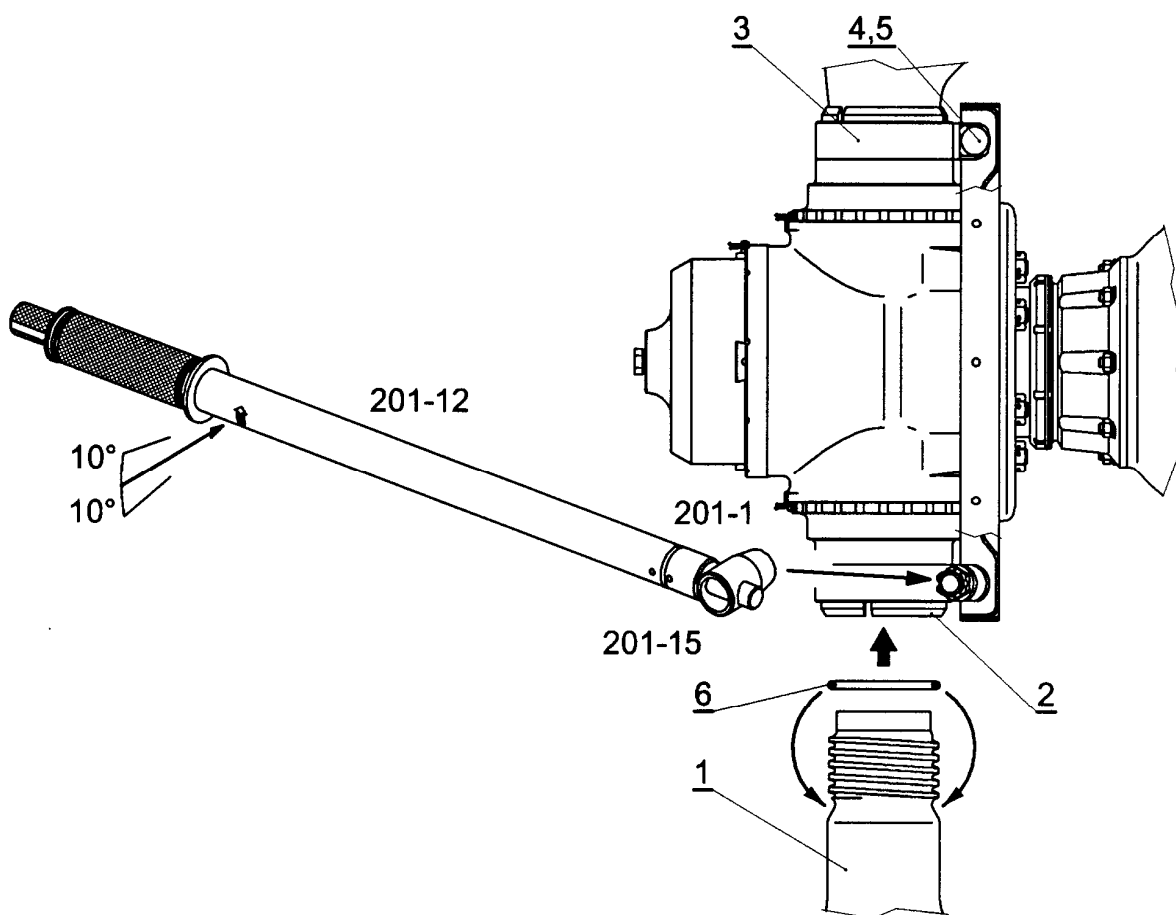

Fig.208 Propeller blades installation
- (6) Install the propeller blades (see fig.208):
- (e) Make arresting of the propeller blade in this position by means of the sleeve (3), mark on the sleeve must agree with a mark on the cylindrical part of the blade bushing. Nuts of the sleeve bolt (5) tighten by the wrench (201-1), with socket inserted (201-15) and torque stick (201-12) (occasional torque see tab 202). Wrench can rotate on the socket. For required torque value reaching the wrench assembly must be held that tightening direction mark will deviate from the rotating level max. $\pm 10^\circ$ (see Fig.208). Secure nut (5) by the safety-pin [ISO 1234-3,2x25-St-B4L].